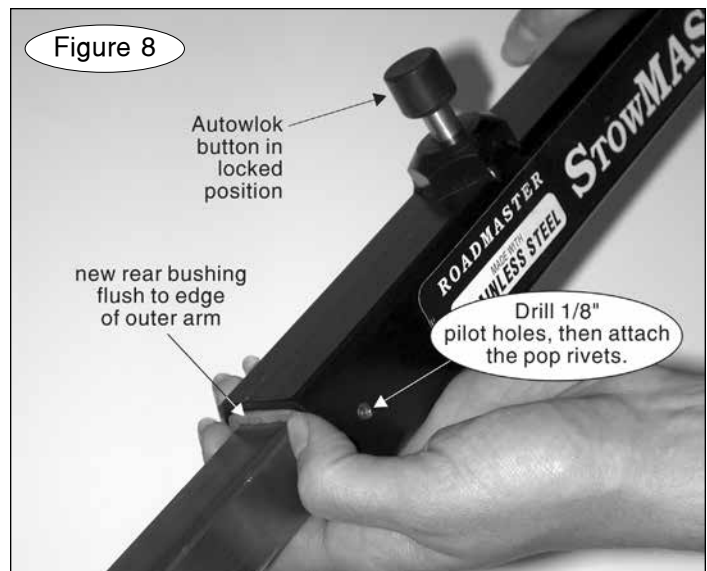

Figure 8
9. Hold the pin down flush to the top of the inner arm, and insert the inner arm into the outer arm. Slide the arm forward until the Autowlok button snaps into the locked position (Figure 8).
10. Apply a light coat of lubricant to the inside of the new rear bushing. As before, use a dry silicone aerosol. Then, with the gap in the bushing facing down (Figure 5), slide the new rear bushing onto the inner arm and forward, until the edge of the bushing is flush to the edge of the outer arm, as shown in Figure 8.
13. With the safety bolt attached, the Autowlock button in the locked position (Figure 8) and the rear bushing flush to the edge of the outer arm (Figure 8), drill two 1/8" pilot holes for the pop rivets (Figure 8).